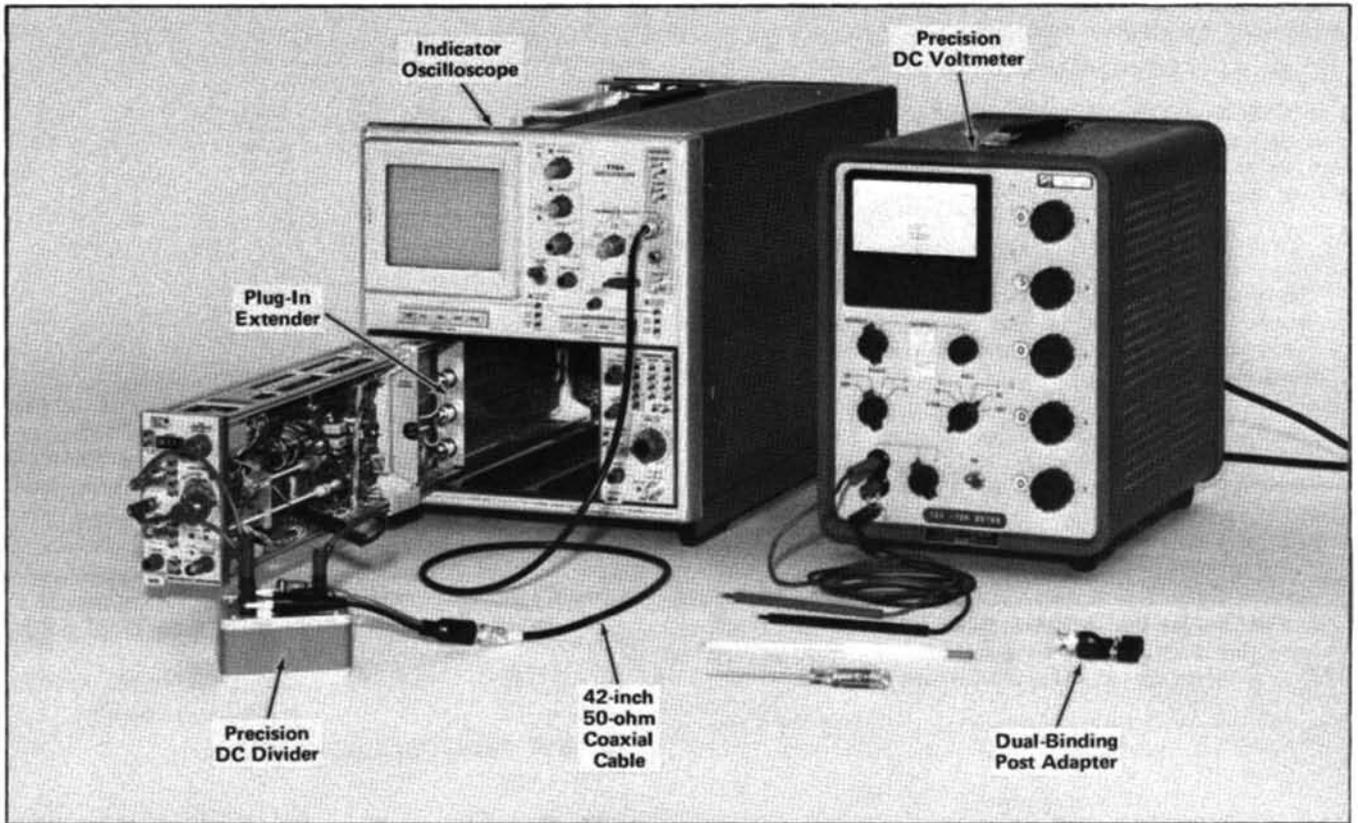

Fig. 5-7. Initial setup showing equipment required for performing calibration steps 12 through 16. To continue the Performance Check procedure, go to step 16A.
12. Check/Adjust +INPUT 10× DC Attenuation Ratio ❶
- a. Test equipment setup, with connections made at completion of step 12g, is shown in Fig. 5-7.
a. Reconnect the Precision DC Divider in the same manner as was described in step 12 and illustrated in Figs. 5-7 and 5-8. Be sure the 1 megohm 1% resistor is connected from the Precision DC Divider Voltage Output connector to Gnd.